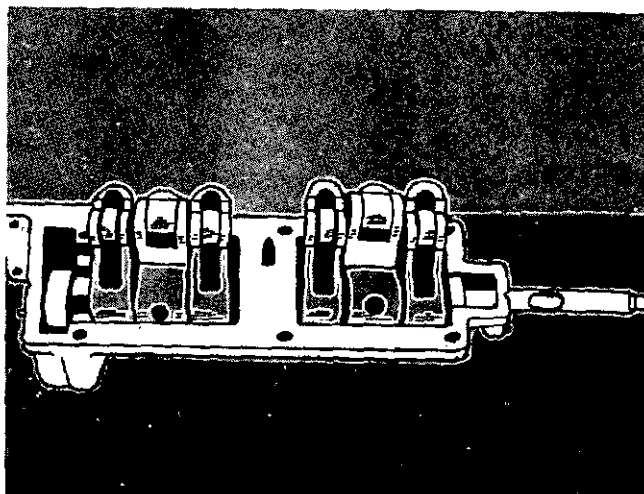

Fig. 4-27. Install The Shaft Into The Housing.
6. Install the shaft in the housing. Slide the shaft through the bores in the housing, levers and gear, Fig. 4-27. At the end of the shaft, the wide tooth of the spline must align with the wide groove in the bore in the gear. Make sure the flat part of the shaft aligns with the setscrews in the eccentrics.